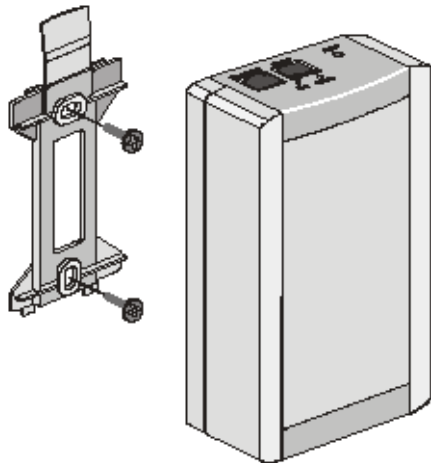

Figure 2-5: Wall Mounting the Indoor Unit
1. Remove the wall-mounting bracket clipped to the back of the indoor unit and mount it on a wall as shown in Figure 2-5. Mount the indoor unit on the mounting bracket.